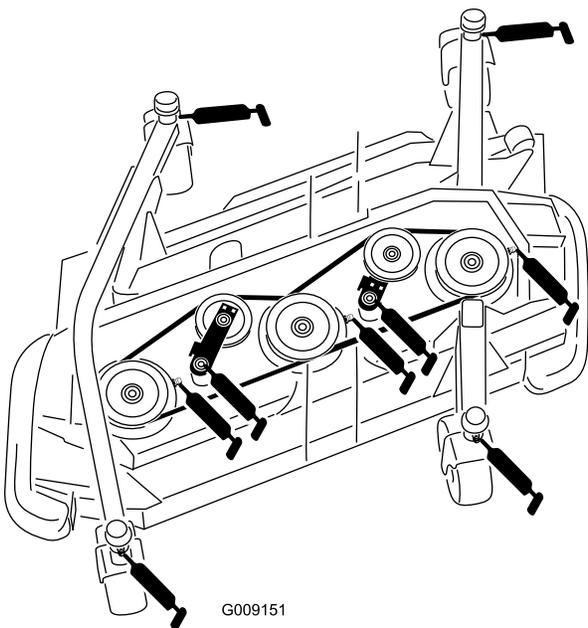

Figure 91
- 4 caster-fork-shaft bushing (Figure 91)
- 3 spindle-shaft bearings (located on the spindle housing) as shown in Figure 91
- 2 idler-arm-pivot bushings (located on the idler-pivot shaft) as shown in Figure 91